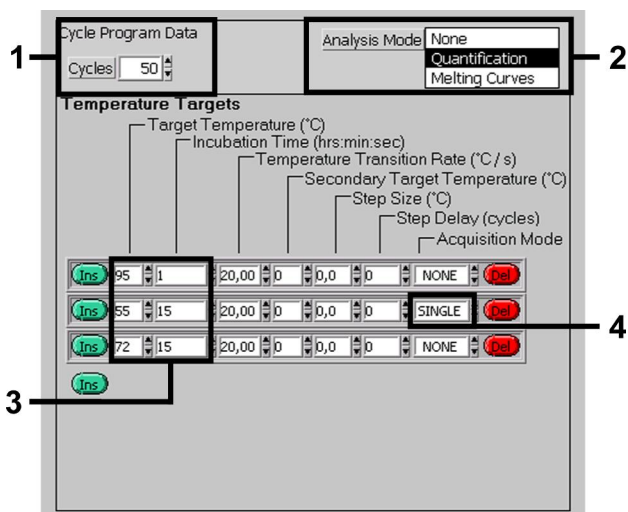

Figure 4. Amplification of the cDNA.
2. Initial Activation of the Hot Start Enzyme Fig. 4